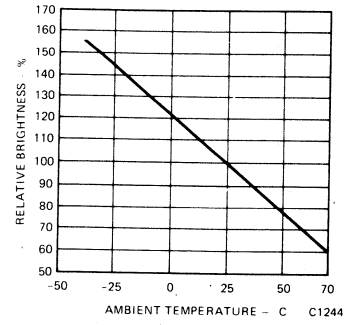

Fig. 3. Luminous Intensity vs. Temperature (see Note 2)
2. The curve in Fig. 3 is normalized to the brightness at 25°C to indicate the relative efficiency over the operating temperature range.